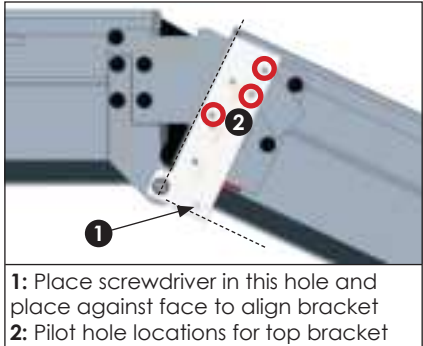
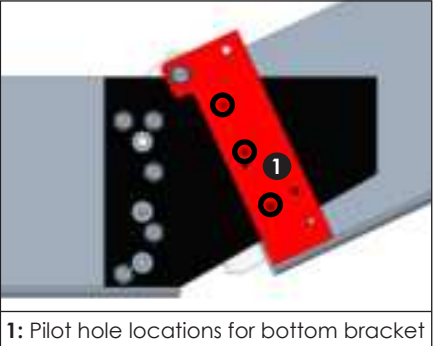

Figure 23: Jig Placement and Pilot Hole Locations (Top)
Figure 24: Jig Placement and Pilot Hole Locations (Bottom)
8. Once the desired angle is achieved, use the provided jig to mark pilot hole locations for installing top and bottom TEK screws to lock the angle in place. Place the jig over the screw and align the jig to the section's face and perimeter. Pilot holes should be drilled to 0.141" diameter or smaller. Refer to **Figure 23** and **Figure 24**.